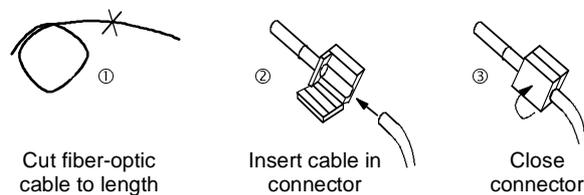

Fig. 5-7 Connecting a plastic cable
1. Cut the correct length of fiber-optic cable. Make sure you cut the cable at right angles, use a sharp knife (Fig. 5-7 ①).
3. Insert the fiber-optic cable into the connector (Fig. 5-7 ②) and push it into the cylindrical sleeve as far as it will go. The transparent fiber optic will protrude out of the other side of the sleeve.
4. Fold round the gripping half of the connector and close it by hand (Fig. 5-7 ③). Once the top half of the connector is latched into the lower half, the cable is lodged securely in the connector.